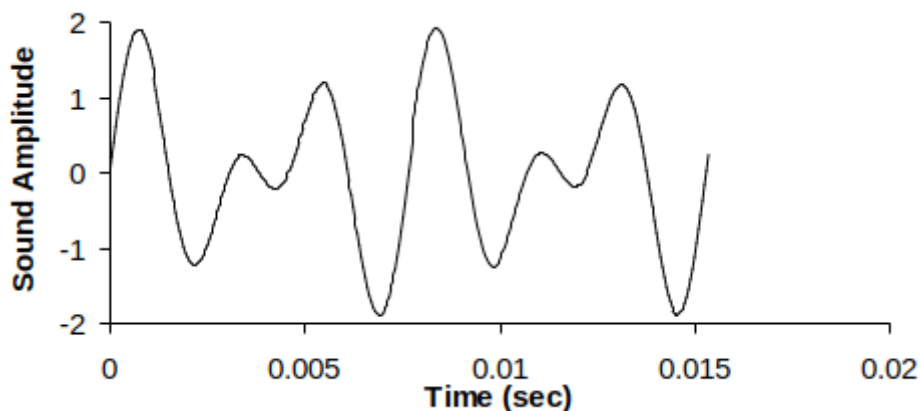

Figure 5.8. A simple chord mixing the notes C and G.
A chord is created by playing multiple notes simultaneously. When two piano keys are struck simultaneously both notes are created, and the sounds are mixed arithmetically. You can create the same effect by adding two waves together in software, before sending the wave to the DAC. You can produce this effect by using two interrupts and adding two waves together in software. Figure 5.8 plots the mathematical addition of a 262Hz (low C) and a 392Hz sine wave (G), creating a simple chord.
1. If you organized the system different than Figure 5.8 and 5.9, then draw its data flow and call graphs